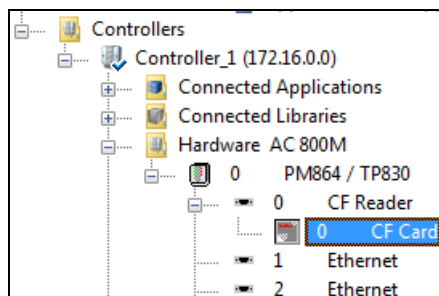

Figure 94. The *Controllers* item expanded and the *CF Card* connected to the *CF Reader* item.
1. Expand the **Controllers** item until you reach the **CF Reader** (or **SD Reader**) item (see Figure 94).